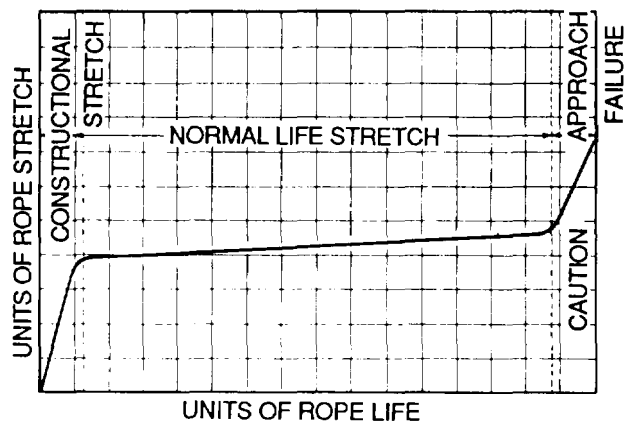

Figure 4-41. Stretch vs. Time
- 2. Rope stretch: All ropes will stretch when loads are initially applied. As rope deteriorates from wear, fatigue, etc. (excluding accidental damage), continued application of a load of constant magnitude will produce varying amounts of rope stretch. A “stretch” curve plotted for stretch vs. time (Figure 4-41) displays three discrete phases: